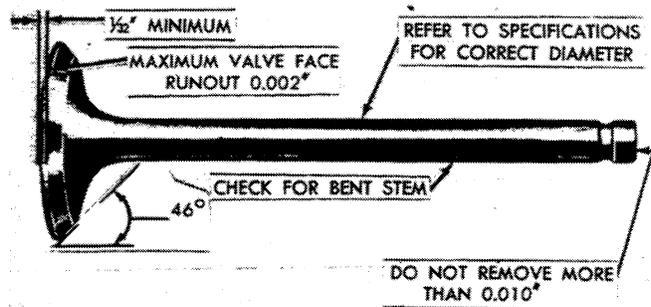

Figure 9
2. Discard burned, cracked, or warped valves that show any evidence of heat checks on the face of the valve or that have a head margin of less than 1/32" after being refaced, Figure 9. Reface all valves.